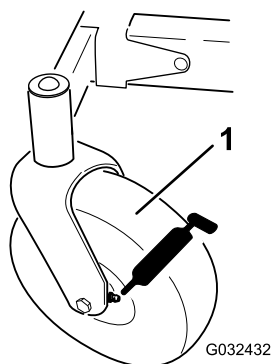
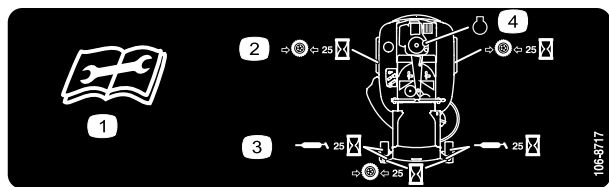

Figure 29
Figure 30
3. Clean the grease fittings (Figure 29 and Figure 30) with a rag.
4. Connect a grease gun to each fitting (Figure 29 and Figure 30).